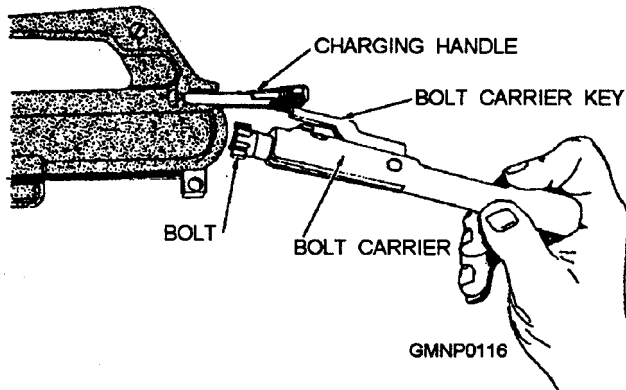
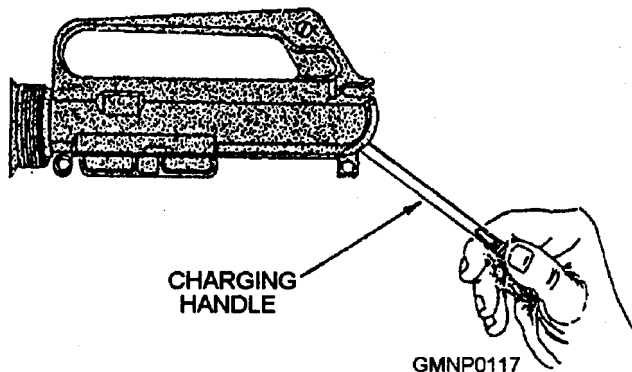

Figure 3-42.—Removing the bolt carrier from the receiver.
Figure 3-43.—Removing the charging handle.
4. Pick up the upper receiver group; keep the muzzle to the left. Grasp the charging handle, pressing in on the latch, and pull to the rear to withdraw the bolt carrier from the receiver. Grasp the bolt carrier and pull it from the receiver (fig. 3-42). When the bolt carrier is removed, the charging handle will fall free of its groove in the receiver (fig. 3-43). Place the receiver on the table.